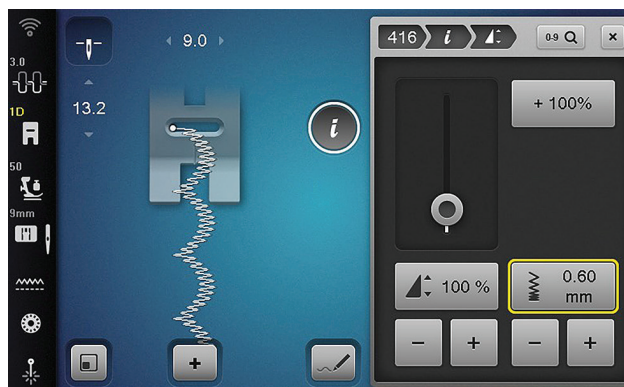

Fig. 8
4. Increase the stitch density to .60 mm (Fig. 8) and sew.